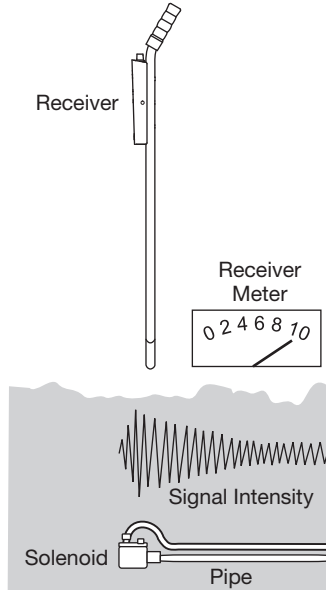

Figure 6 – Locating Broken Wire End
Step 1. Start at the clock. Connect the red transmitter lead to the station wire leading to the subject valve, and connect the black lead to earth ground. Turn the transmitter on, adjust the output to the highest level, assemble the receiver, locate the path, and start tracing the wire following the null. The null will be present until you pass over a solenoid valve, and then the signal will become extremely strong. Mark this spot. Check around this hot spot for a null leaving the area. If the null continues, follow it and mark any additional hot spots. (Refer to Figure 6.) If only one hot spot or valve is located, it will be the valve in question.